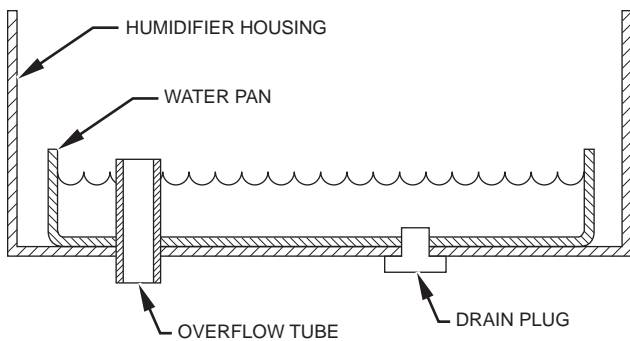

Fig. 10 — Cleaning Water Pan and Unit Cabinet — P110-WTR2019A
3. Drain water from the unit. Place a pail underneath the drain plug located on the bottom of the humidifier cabinet. Lift the tab on the drain plug and remove the plug. Allow all water to drain from the unit. (See Fig. 10.)
7. Clean the water pan and unit cabinet. Tilt the water pan and lift it from the unit. Wash the pan with warm, soapy water. Flex the pan to loosen accumulated scale. Wash the unit interior, removing any accumulated deposits. Inspect the drain line to ensure that no blockage has occurred. Clean as required. (See Fig. 10.)